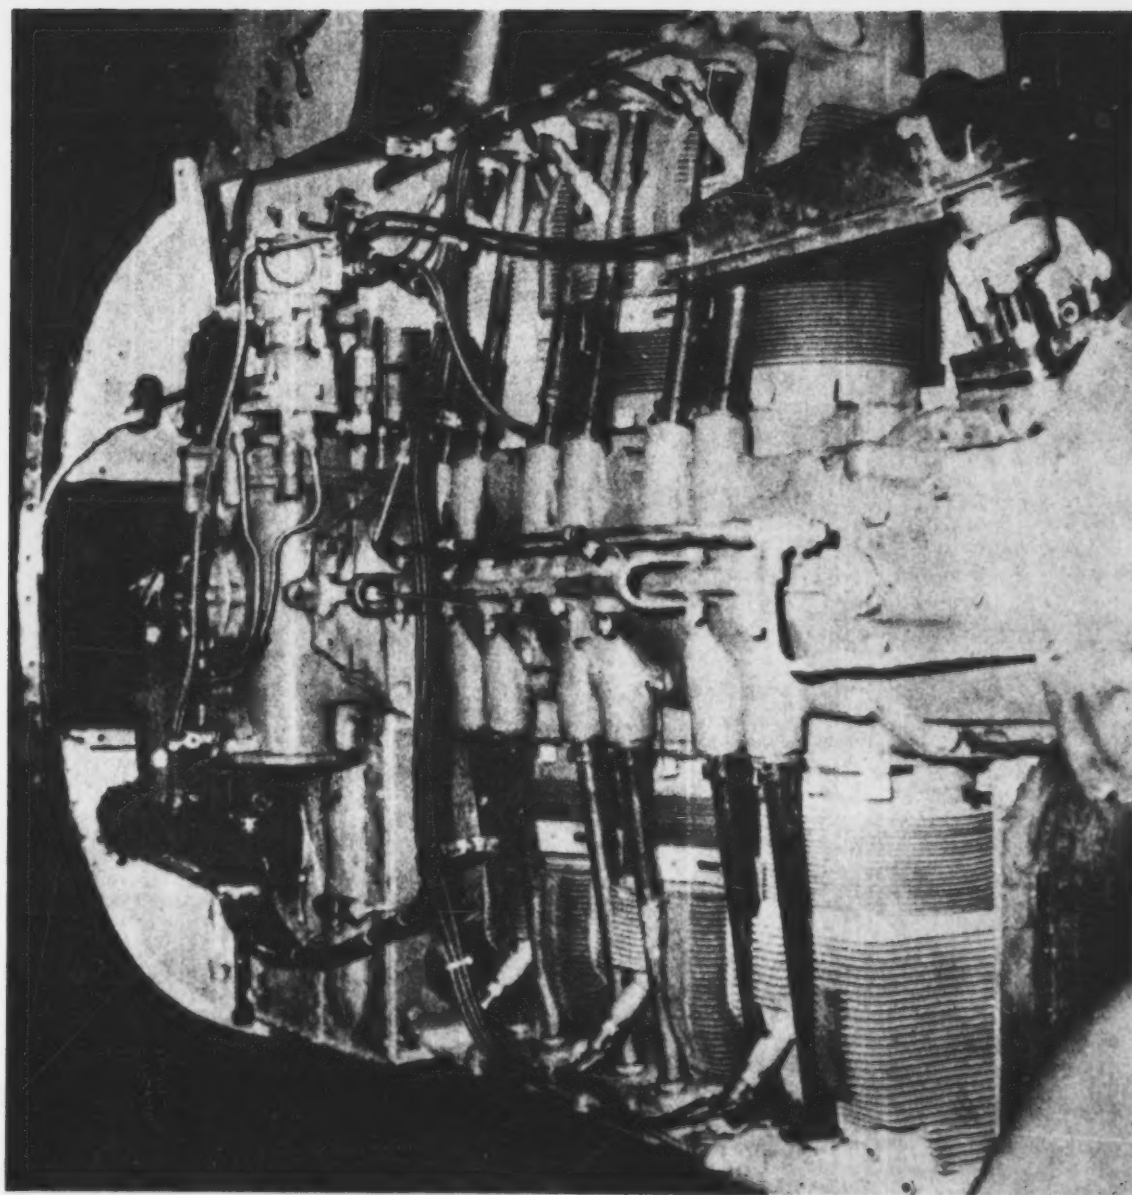

Figure 5-39D. 0-480-3A Engine Harness Installation
(2) Replace each spark plug high tension lead grommet plate with two of the Bendix 10-320546 spark plug cable plates at each location as follows:
(3) Cut 7/8 (0.875) of an inch from the end of each spark plug cooling air blast tube on the cowl-ing to prevent interference between ends of cooling tubes and the spark plug high tension leads and elbows.
(4) Install 10-320405-3 wiring harness assembly on the 0-480-1 engine as shown in figures 5-39B and 5-39C. Refer to figures 5-39D, 5-39E and 5-39F when installing 10-320405-3 wiring harness assembly on the 0-480-3 engine.
(5) During harness installation, dress leads to engine so that no lead is taut or touching any part of engine, engine mount or accessories.
(6) Upon completion of installation, examine all leads, clamps and nylon ties for proper positioning and secureness. Final harness configuration shall conform as nearly as possible to views shown in figures.